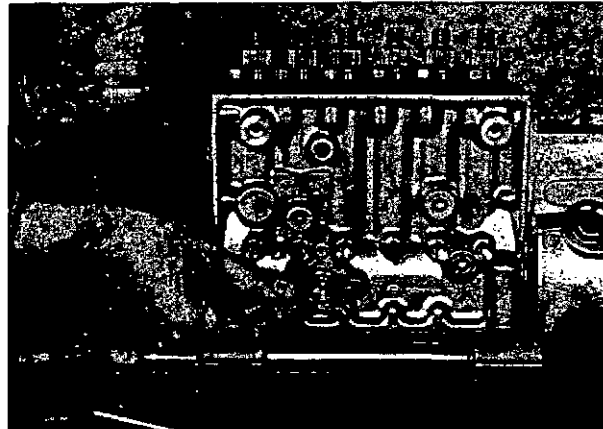

Fig. 42 Removing tappet holders
17. Turn the pump upright. In turn, bring each tappet to TDC and unscrew the tappet holder 1 681 115 12F (fig. 42). When all tappet holders are removed, fit the blanking screws to the tappet access holes.